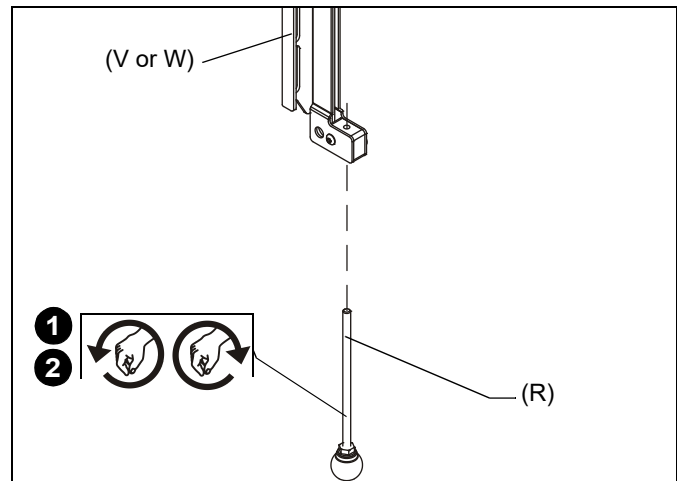

Figure 19
1. If necessary due to height of tall screen, add pull knob (R) to bottom of interface brackets (V and W) to allow easier accessibility for adjustment purposes. (See Figure 19)